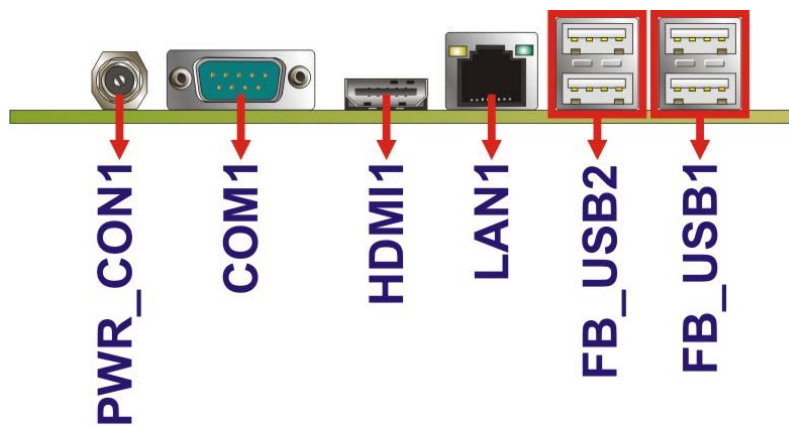

Figure 3-16: External Peripheral Interface Connector
CN Location:	See Figure 3-16
- CN Location:** See **Figure 3-16**
CN Location: See **Figure 3-16**